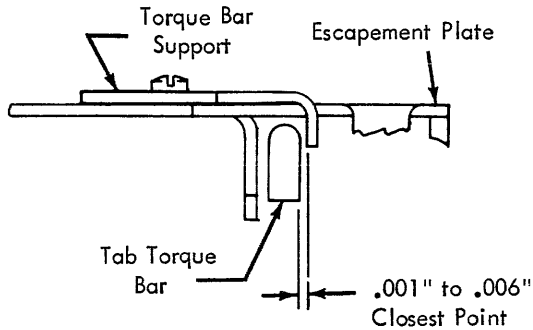

FIGURE 170. Tab Torque Bar Support (Early)
10. Tab Torque Bar Support (Early) (Fig. 170) - With the tab torque bar at rest, position the torque bar support (relative to the escapement plate) to clear the torque bar by .001\" to .006\".